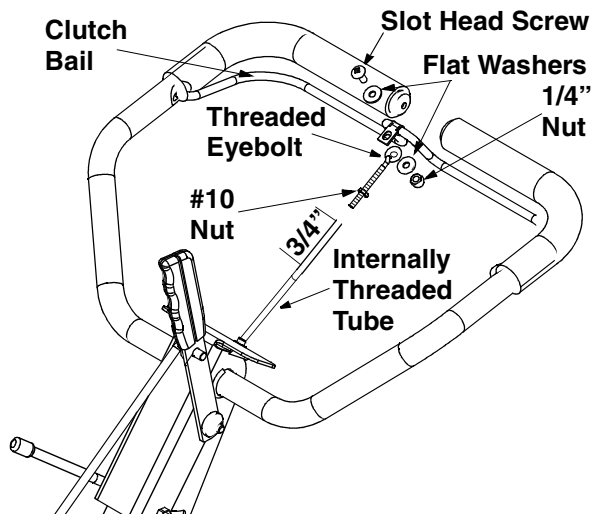

Figure 5
- Fasten the threaded eyebolt onto bail as shown in Figure 5. The parts go together from top to bottom as follows: Slot Head Screw, Flat Washer, Clip, Eyebolt, Flat Washer and 1/4" Nut.
- Thread eyebolt and #10 nut, removed in step 1, into the internally threaded tube at the end of the cable. Thread engagement should be about 3/4". Tighten nut against tube at end of cable. See Figure 5.